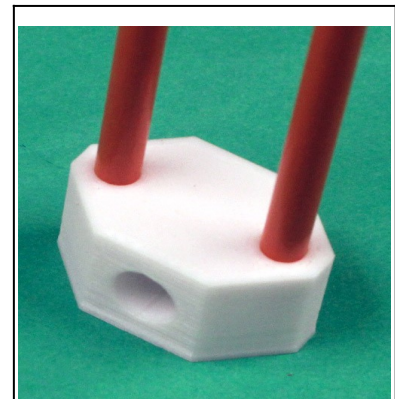

Figure 5: Feed point insulator
4. Insert the rod into the hub's front hole, and into the $\frac{3}{8}$ " side hole on a feed point insulator (Figure 5).